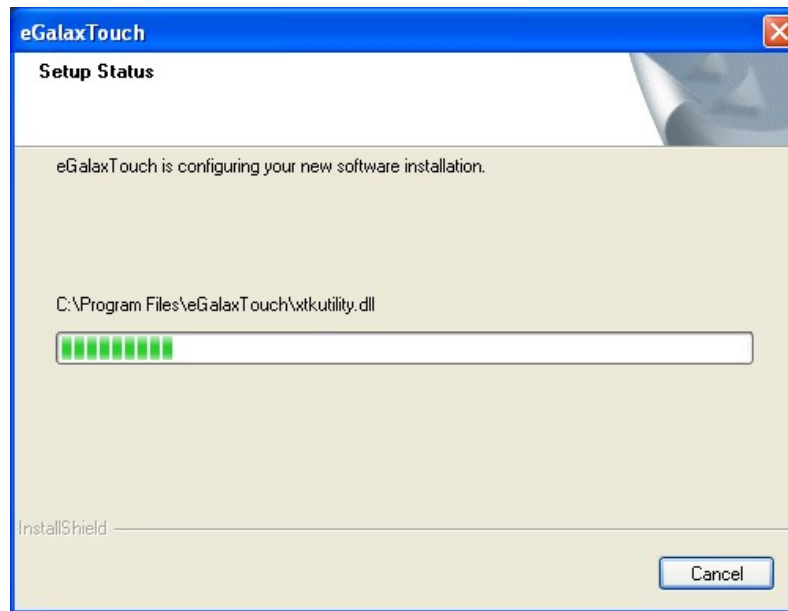

Figure 6-44: Setup Status
Step 12: The installation of the program begins. See Figure 6-44.